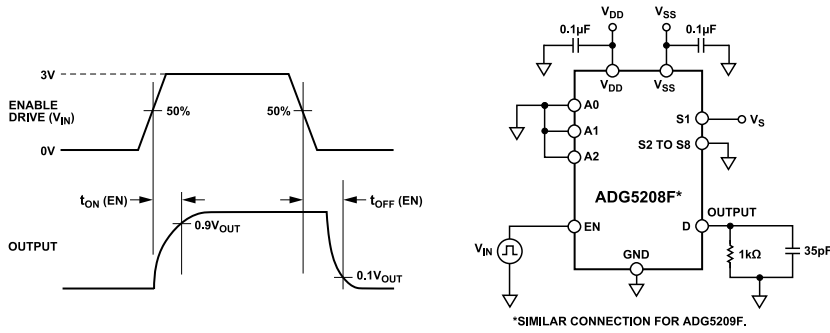

Figure 46. Enable Delay, $t_{ON}(EN)$, $t_{OFF}(EN)$
t_{ON} (EN) represents the delay between applying the digital control input and the output switching on (see Figure 46).
t_{OFF} (EN) represents the delay between applying the digital control input and the output switching off (see Figure 46).